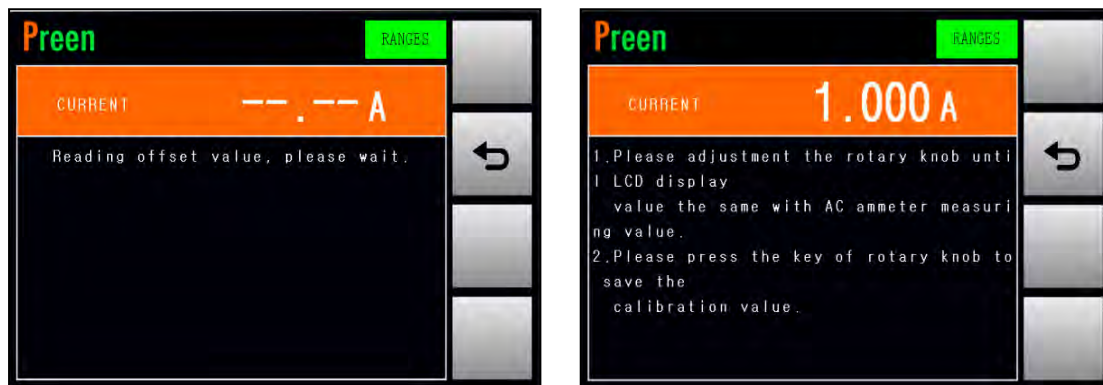

Figure 4.16 Enable the calibration of the LO-Range RMS current
3. Press the output & reset button on the front panel to enable the calibration of the LO-Range RMS current (refer to Figure 4.16), and then the product will start to output the voltage which is closed to 100V.